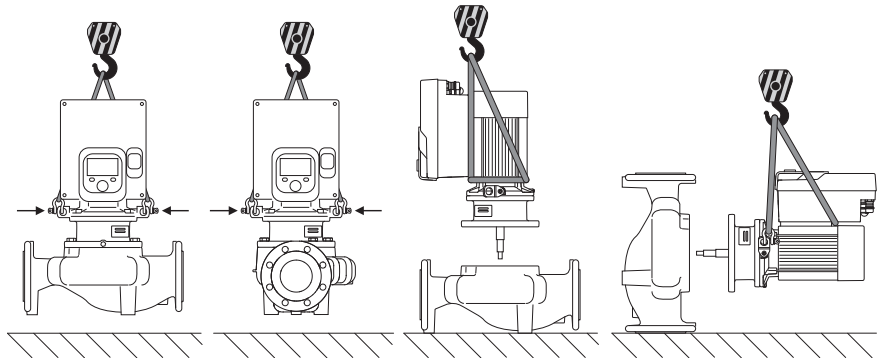

Fig. 6: Single pump lifting direction
The pump must be transported using approved lifting gear (hoist, block and tackle, etc.). The lifting gear must be attached to the transport lugs at the motor flange. Slide the lifting loops under the adapter plate, if necessary (Fig. 6/7). Secure the pump against tipping.
2. Attach motor impeller unit (Fig. 4) to the transport lugs with suitable lifting equipment for protection. To prevent the unit from tipping, place a belt loop around the motor and adapter of the electronic module as shown in Fig. 6. When attaching, avoid damaging the electronic module.